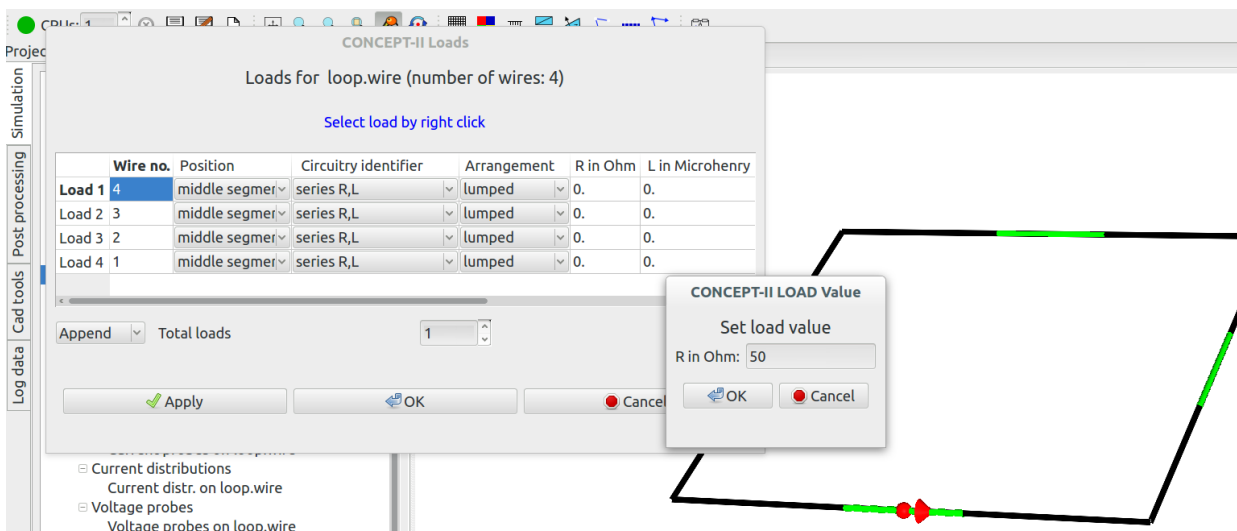

Fig 15: Placing lumped loads on wires
- Right click on '**R in Ohm**' → **Set global** → the small sub-window named 'CONCEPT-II Load Value' appears. 50 Ω will written into the whole column, notice (Fig 15).